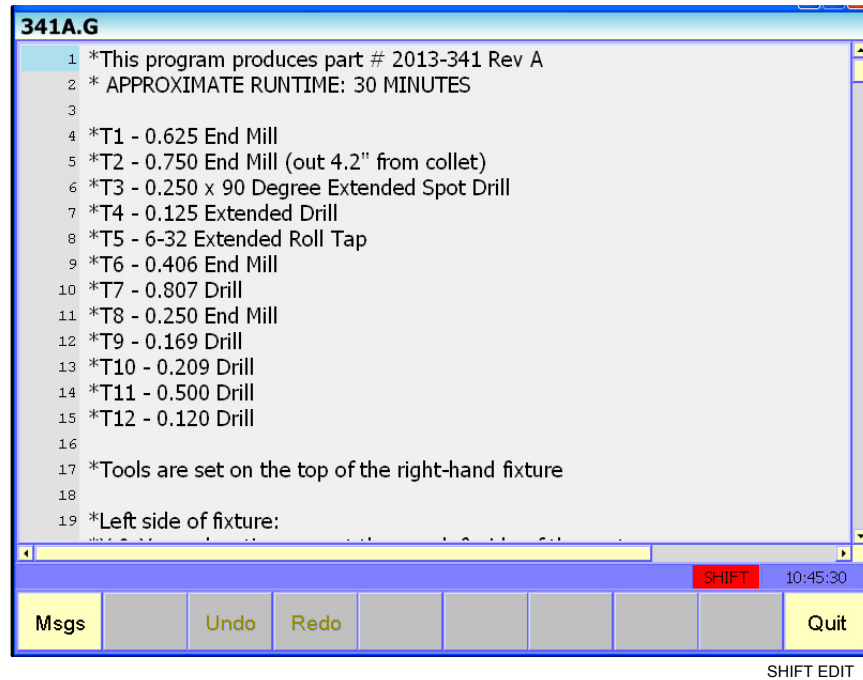

Figure 6-2, Program Editor SHIF Screen
2. Press the **SHIFT** key on the keyboard to display the Manual Shift screen (refer to **Figure 6-2**). Refer to Table 6-1, Edit Soft Keys.
You can restore deleted blocks with the Edit **Undo** (**SHIFT + F3**) soft key. Refer to Figure 6-2, Program Editor SHIFT Screen. The last block deleted is the first block restored.